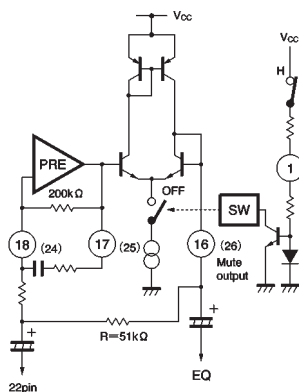

Fig. 14
In applications that use a directly connected output coupling capacitor, connect a resistor as shown in the circuit diagram in Fig. 14 to reduce the pre-mute switching noise described in (3) above.